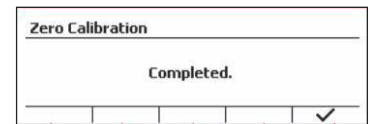

Figure 6
4. The message "Completed" will display on screen. (See Figure 6)